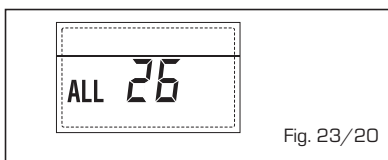

Fig. 23/20
- **ANOMALIA COERÊNCIA APLICAÇÕES SOLAR "ALL 27"** (fig. 23/21)